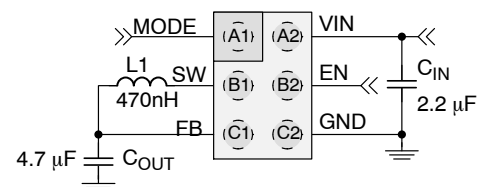

Figure 1. Typical Application
**Table 6. ELECTRICAL CHARACTERISTICS** ( Note 2) Minimum and Maximum Values are at VIN = VEN = 2.3 V to 5.5 V, VMODE = 0 V (AUTO Mode), TA = -40°C to +85°C, circuit of Figure 1, unless otherwise noted. Typical values are at TA = 25°C, VIN = VEN = 3.6 V.